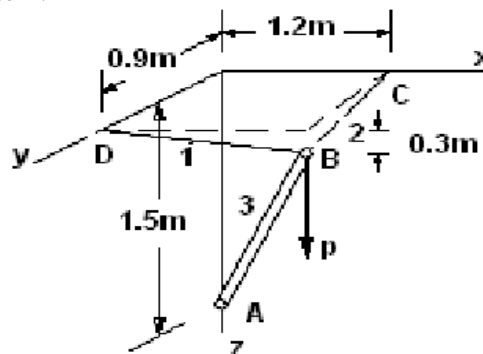

Figure.1
- 1 a) A mast AB supported by a spherical socket at A and guy wires BC and BD carries a vertical load P at B as shown in the Figure.1. Point B is 0.3 m vertically below the xy plane. Find the axial force induced in each of the three members of this system. 15